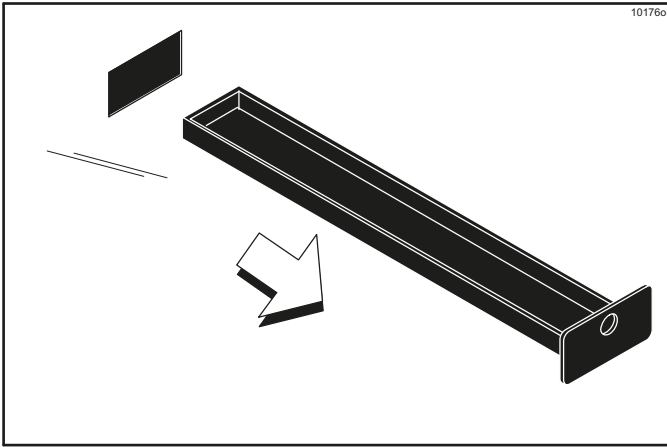

Figure 6-40
8. Remove all drip pans. Take them to the sink for cleaning. (See Figure 6-40.)